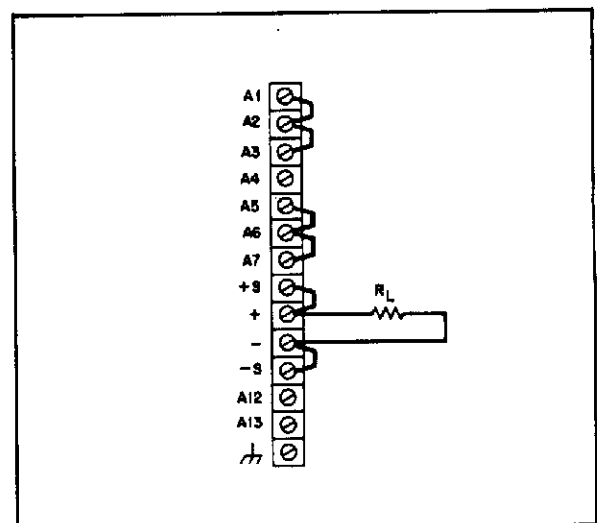
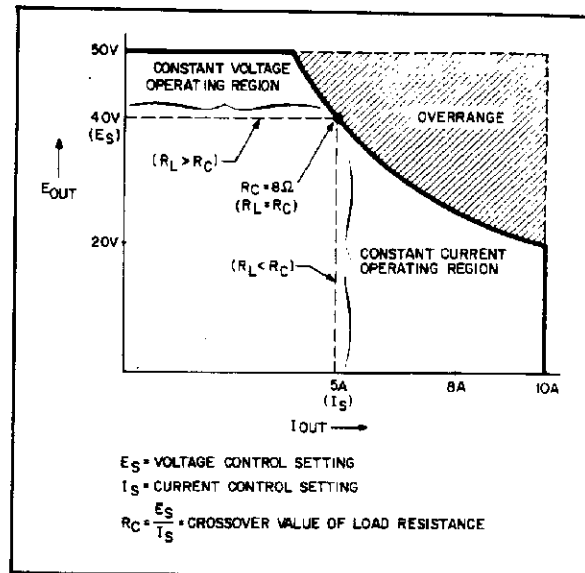
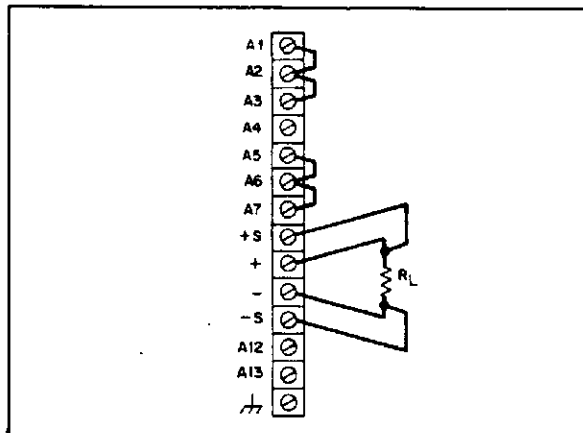

Figure 3-2. Normal Strapping
Figure 3-3. Overall Output Characteristic With Sample Operating Locus
Figure 3-4. Remote Sensing
- a. Ensure that rear terminal board straps are connected as shown in Figure 3-2, but do not connect load. Ensure that ac power module board matches line voltage to be used as outlined in Section II. If unit is equipped with HP-IB interface (Option 001) ensure that rear panel switch is set to LOCAL before proceeding.
- b. Ensure that CURRENT control (5) is rotated clockwise at least two turns and OVERVOLTAGE potentiometer (7) is fully clockwise.
- c. Set LINE switch (1) to ON and observe that pilot lamp (2) lights and fan goes on.
- d. Turn VOLTAGE control (3) through output voltage span of unit as indicated on voltmeter (4). VOLTAGE MODE light (3) should be lit throughout procedure indicating that supply is in constant voltage mode.
3-6 This power supply was shipped with the proper rear panel strapping connections made for constant-voltage/constant-current operation with local sensing and local programming. This strapping pattern is illustrated in Figure 3-2. By means of the front panel voltage and current controls, the operator selects either a constant-voltage or a constant-current output as described later, in paragraphs 3-10 or 3-12. Whether the supply functions in the constant-voltage or constant-current mode depends on the settings of the VOLTAGE and CURRENT controls and on the value of the load resistance. Figure 3-3 shows the overall characteristic of this supply together with the sample operating locus that is established with voltage and current settings of 40V and 5A respectively. For values of load resistance greater than the sample crossover value of 8 ohms, the supply operates in the constant-voltage mode. With a load resistance smaller than the crossover value, it operates in the constant-current mode. The transition occurs automatically; no switches need to be operated or connections changed. The front panel MODE lights indicate which mode the supply is in. A rectangular operating locus similar to that shown in Figure 3-3 will be established for all voltage and current settings within the 200 Watt output boundaries. However, if the operator sets the voltage or current controls so that the 200 Watt limit can be exceeded, the supply will go into overrange if the load resistance exceeds the 200 Watt value (refer to next paragraph).
3-7 **Overrange.** This supply will be driven into overrange (shaded area of Figure 3-3) if the voltage and current controls are set above the 200W rating and the load resistance exceeds a 200W critical value. For example, assume that the operator sets the VOLTAGE control at 40V and the CURRENT control to 10A (Figure 3-3). For all load resistances above 8 ohms (which is the 200 Watt critical value) the supply would operate normally in the constant voltage mode. If the load resistance were to fall much below 8 ohms, however, the supply would be forced into overrange. If the load resistance continued to decrease to a 2 ohm value, the supply would automatically come out of overrange and into the constant current mode at the 10A, 20V point. (The supply will probably go out of regulation while operating in the overrange region, refer to paragraph 3-9).
3-28 Because of the unavoidable voltage drop developed in the load leads, the normal strapping pattern shown in Figure 3-2 will not provide the best possible voltage regulation at the load. The remote sensing connections shown in Figure 3-4 improve the voltage regulation at the load by monitoring the voltage there instead of at the supply's output terminals. (The advantages of remote sensing apply only during constant voltage operation.) The following paragraphs discuss some precautions that should be observed when making a remote sensing installation.